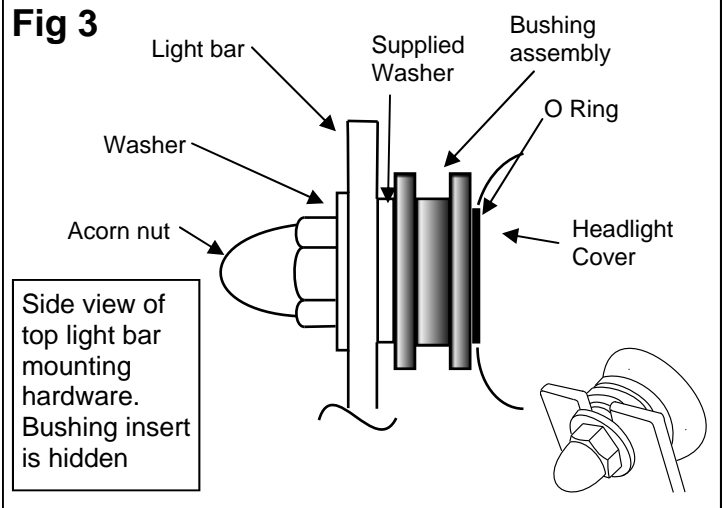

Fig 4a
6. Slip the fairing / windshield and the mounting plates onto the upper and lower bushings, and secure the left and right locking mechanism. (See Figs 4a and 4b). Tighten all four light bar acorn nuts.